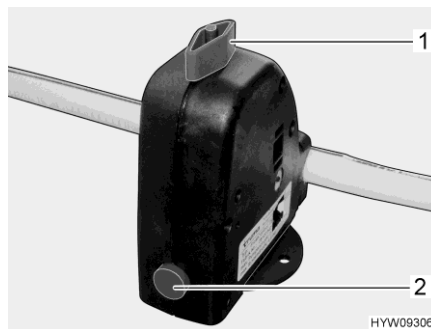

Fig. 154 Safety/drainage valve (Truma)
- Close the safety/drainage valve (Truma). Turn the knob (Fig. 154,1) perpendicular to the safety/drainage valve and push the push button (Fig. 154,2) in.